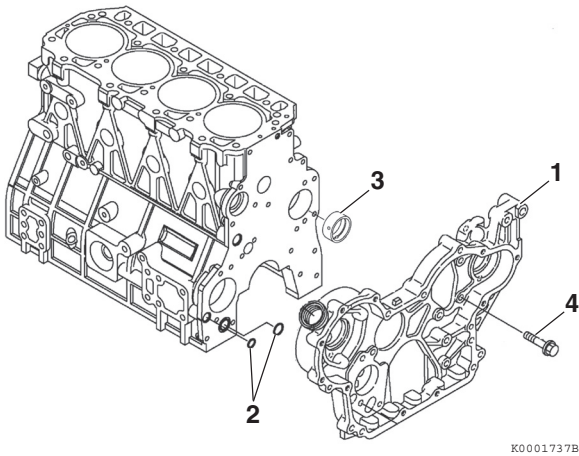
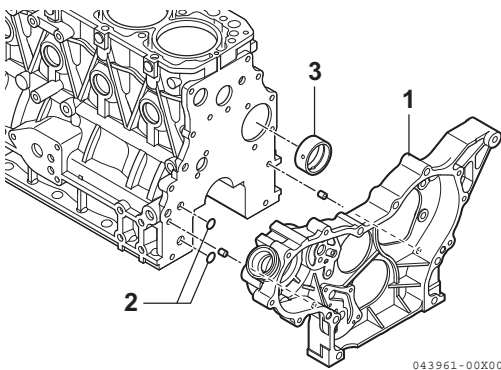

Figure 6-96
Figure 6-97
1. If removed, install a new camshaft bushing (**Figure 6-96, (3)**) using the appropriate service tool.
3. **4TNV98C, 4TNV98CT:** Install two new O-rings (**Figure 6-96, (2)**) in the cylinder block.
4. **3TNV88C - 4TNV86CT:** Reinstall the dowels (**Figure 6-97, (5)**) and a new O-ring (**Figure 6-97, (2)**).
5. Reinstall the gear case (**Figure 6-96, (1)**) or front plate (**Figure 6-97, (1)**). Tighten the bolts to the specified torque.